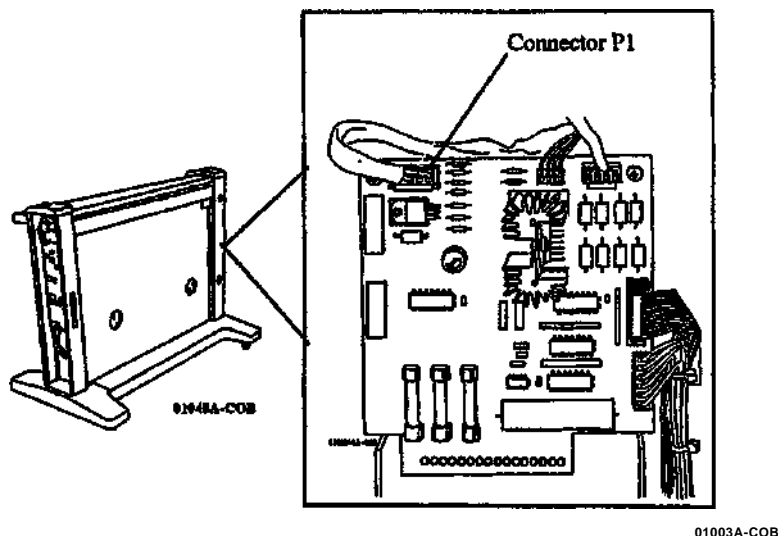

Figure 1. Power Distribution PWB
2. (Figure 1): Disconnect Connector P1 from the Power Distribution PWB.